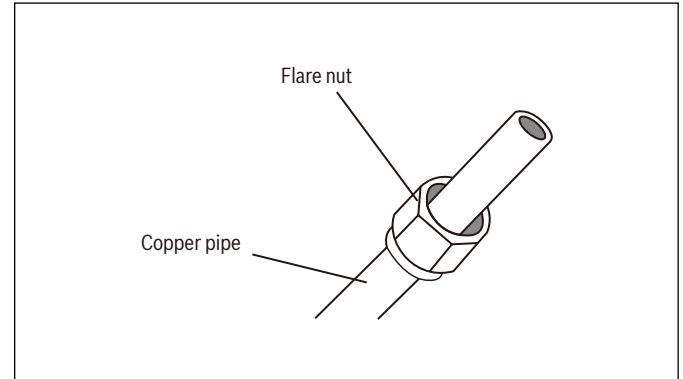

Figure 41
3. Place flare nuts on both ends of pipe. Make sure they are facing in the proper direction, because you can't put them on or change their direction after flaring. See Figure 41.